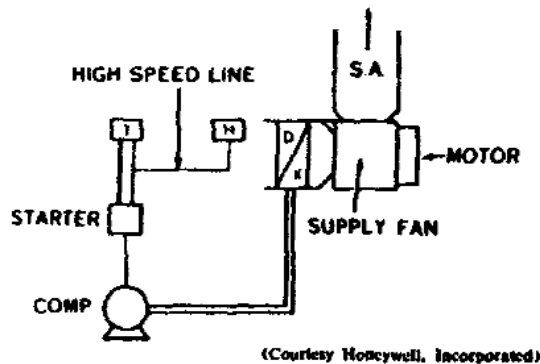

Figure 4. Two-speed compressor control.
10. *Two-speed compressor.* Figure 4 shows a typical two-speed compressor installation. A two-stage thermostat (space) cycles the compressor between low speed and off during light load conditions and cycles the unit between high and low speed during heavier loads. The thermostat also shuts off the compressor if the space temperature falls below the set point.